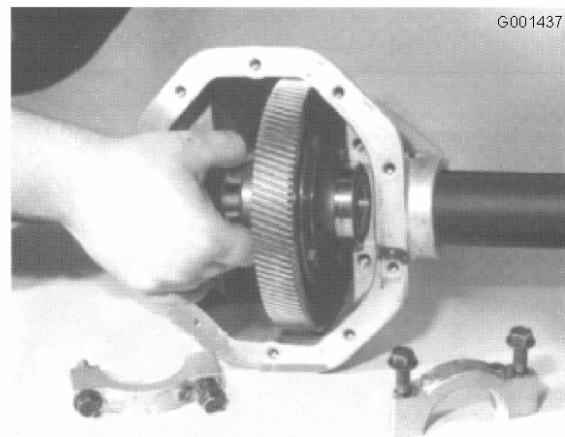

Figure 9
5. Remove the differential assembly (Figure 9).